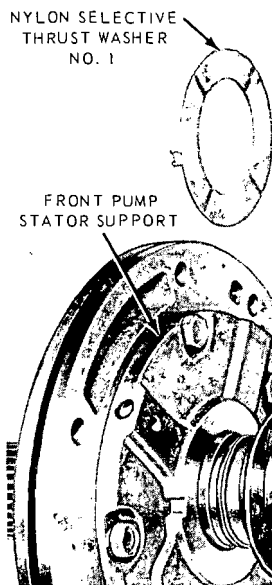

FIG. 41—Selective Thrust Washer Locations
6. Record the dial indicator reading. The end play should be 0.008 to 0.042 inch. If the end play is not within specifications, the selective thrust washer (Fig. 41) must be replaced.
When it is necessary to change a thrust washer, use the selective thickness of thrust washer No. 2 to obtain the proper end play. Fig. 41 shows the selectivity that is available to obtain the correct selective thrust washers.
8. If thrust washer No. 2 (Fig. 41) did not come out with the front pump, remove the thrust washer from the forward clutch cylinder. Remove the forward clutch from the forward clutch hub and ring gear (Fig. 48).